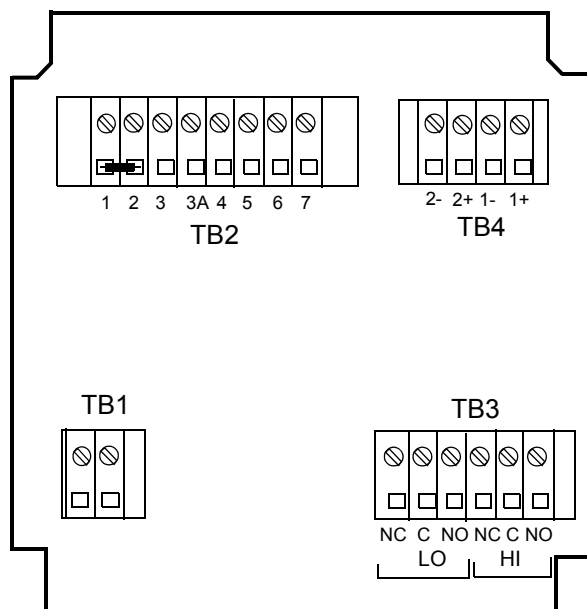

Figure 28. Temperature Simulation (Metal Unit Shown)
- a. Connect a 110 Ω , resistor across Terminals 1 and 2 on Terminal Strip TB2. Refer to Figure 28.